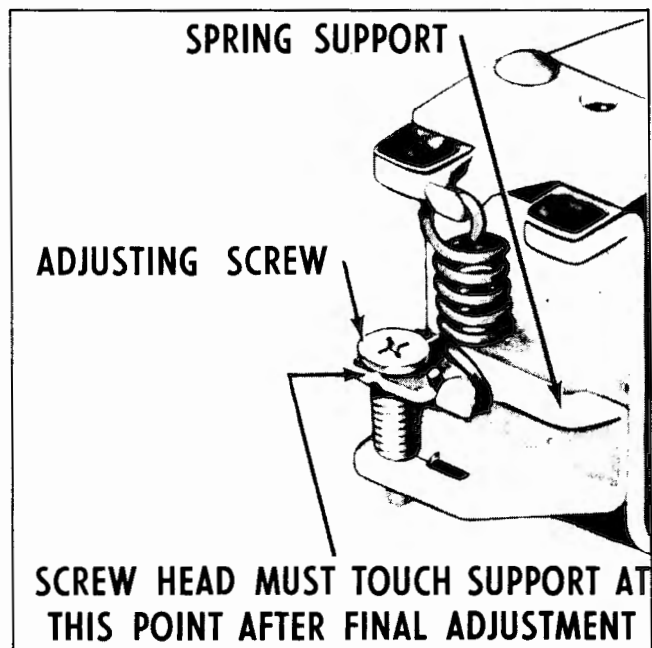

Fig. 12-11 Proper Relationship of Spring Support and Adjusting Screw
When the need for changing the voltage regulator setting has been established, proceed as follows: Remove the regulator cover and turn adjusting screw clockwise to raise the setting, counterclockwise to lower the setting. Before taking the new reading after each adjustment, replace the regulator cover as quickly as possible and cycle the generator. **CAUTION:** *Final adjustment should always be made by increasing spring tension to assure contact between the screw head and spring support (Fig. 12-11).* Sometimes the spring support does not follow the screw head as spring tension is decreased, and it will be necessary to bend the spring support up to insure contact between the screw head and spring support. Failure of the voltage regulator unit to "hold" its setting usually results from (1) setting or checking the voltage regulator at other than operating temperature, and (2) the screw head not touching the spring support after final adjustment is completed.